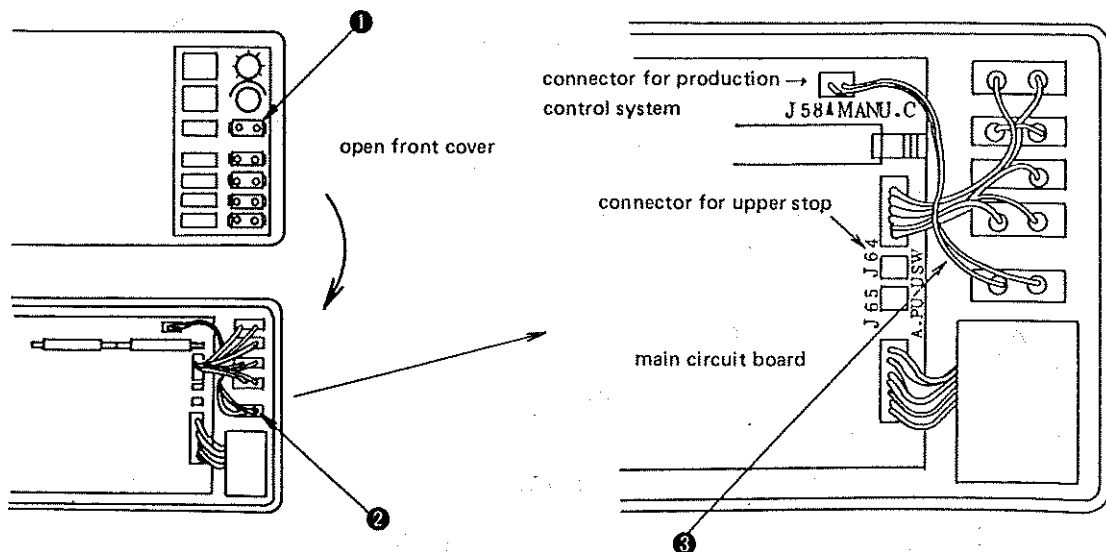

Fig. 4-31
Connect J58 MANU.C on the main circuit board to connector ❶ as shown in Fig. 4-31 (this is how the machine is wired at the time of factory shipment) and also connect connector ❶ to an external cable to make the production control system usable. When the wiring is done this way, a signal is output at the time of thread trimming.
When connector ❸ in Fig. 4-31 is connected to J64 USW on the main circuit board, and the special order upper stop switch is connected to connector ❶, the needle is stopped in the upper stop position without thread being trimmed during the sewing operation.
- ❶ Fix upper stop switch A in place with the wood screws that come packed with it.
- ❷ Next, fix the switch cord in place with 4 staples.
- ❸ Connect the cable to connector ❶ in Fig. 4-31.